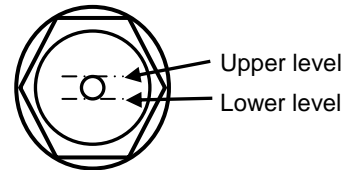

Fig. 6.2 Lubrication Oil Level
- (3) Check the oil level from the sight-glass of the oil level gauge. Then add the lubricant oil so that the level is the upper level. (See Fig. 6.2 and 6.5)
- (4) After you have checked that there are no depositions and fragments adhering to the O-ring attached to the plug, close the oil-inlet.
- (5) Attached the outer cover and the purge unit on the pump.
- (6) Be sure to check the gas leak after supplying the lubricant oil.